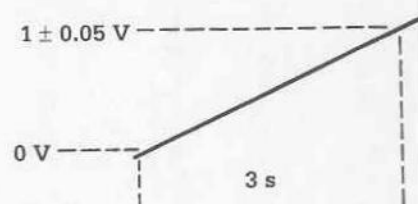

Figure 7-6
2. Connect an oscilloscope to TP-19 and set it for 0.2 V/division vertical scale and 0.5 s/division horizontal scale. Adjust potentiometer RL until the displayed waveform reaches a ramp voltage of 1.0 V at 3 seconds. For this adjustment the ventilator will have to be turned Off and On. When the ventilator is turned On measure the ramp and adjust RL for a 1 ± 0.05 V ramp at 3 seconds. The waveform should look like Figure 7-6.